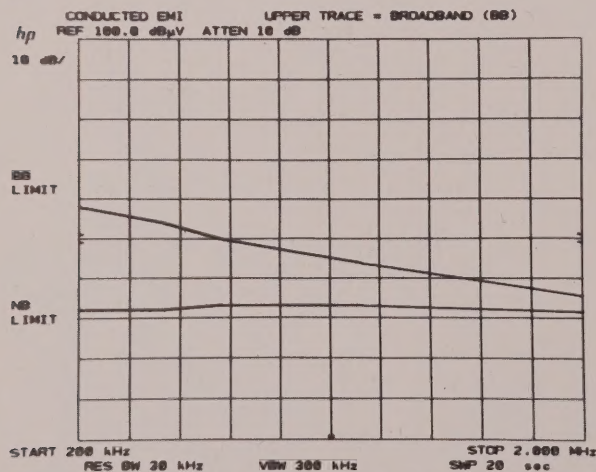

Figure 4. Composite BB and NB limit line.
Once the "HZ" key is pressed, the program branches to a subroutine which draws a composite broadband (BB) and narrowband (NB) limit line from 200 KHz to 2 MHz on the CRT (see figure 4). The composite BB limit line represents the CE03 specifications which have been adjusted for the transfer impedance of the current probe and normalized to a 1 MHz impulse bandwidth.¹ The NB limit line only requires an adjustment for the probe impedance.